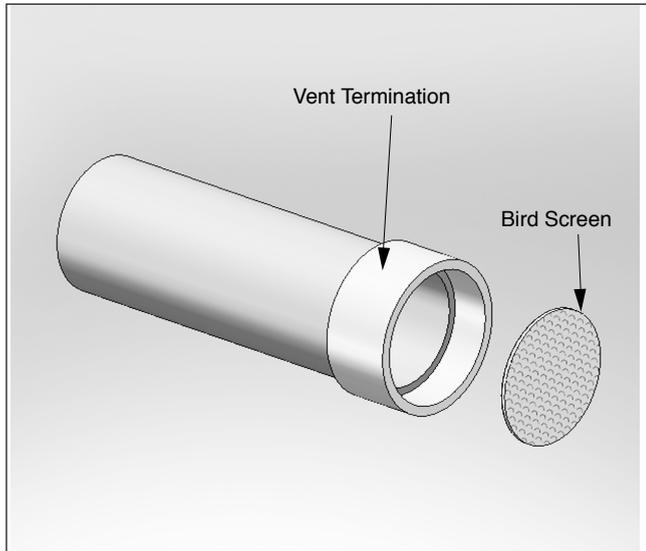
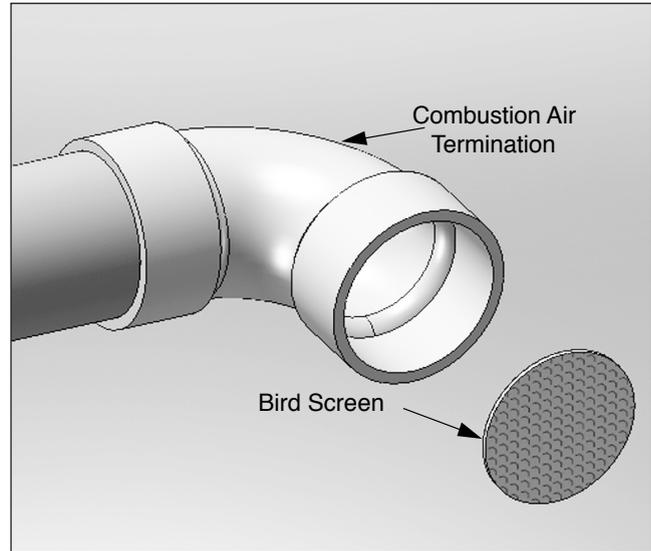

Fig. 9 - Sidewall Vent Bird Screen Installation
Fig. 10 - Sidewall Combustion Air Bird Screen Installation
1. The vent and combustion air terminations must include a factory supplied "bird screen" installed as shown in *Fig. 9 and Fig. 10 on page 18*.
1. The vent and combustion air terminations must include a factory supplied "bird screen" installed as shown in *Fig. 3 on page 14 & Fig. 10 on page 18*.